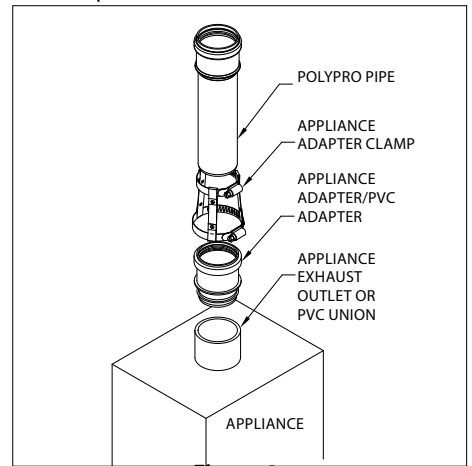

Figure 4
1. If the appliance has a PVC/CPVC female outlet use the Appliance Adapter/ PVC Adapter and Clamp. **(Fig.4)**